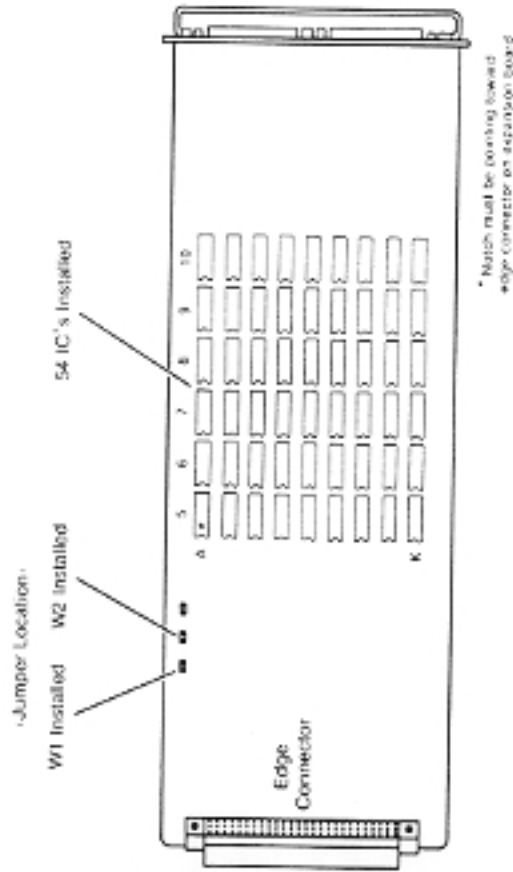

Figure 2 One and One Half MB Expansion IC Location
- 1 To install the memory chip set for 1.5MB first determine the locations where the jumper(s) and the ICs must be placed (see Table 1 and Figure 2).